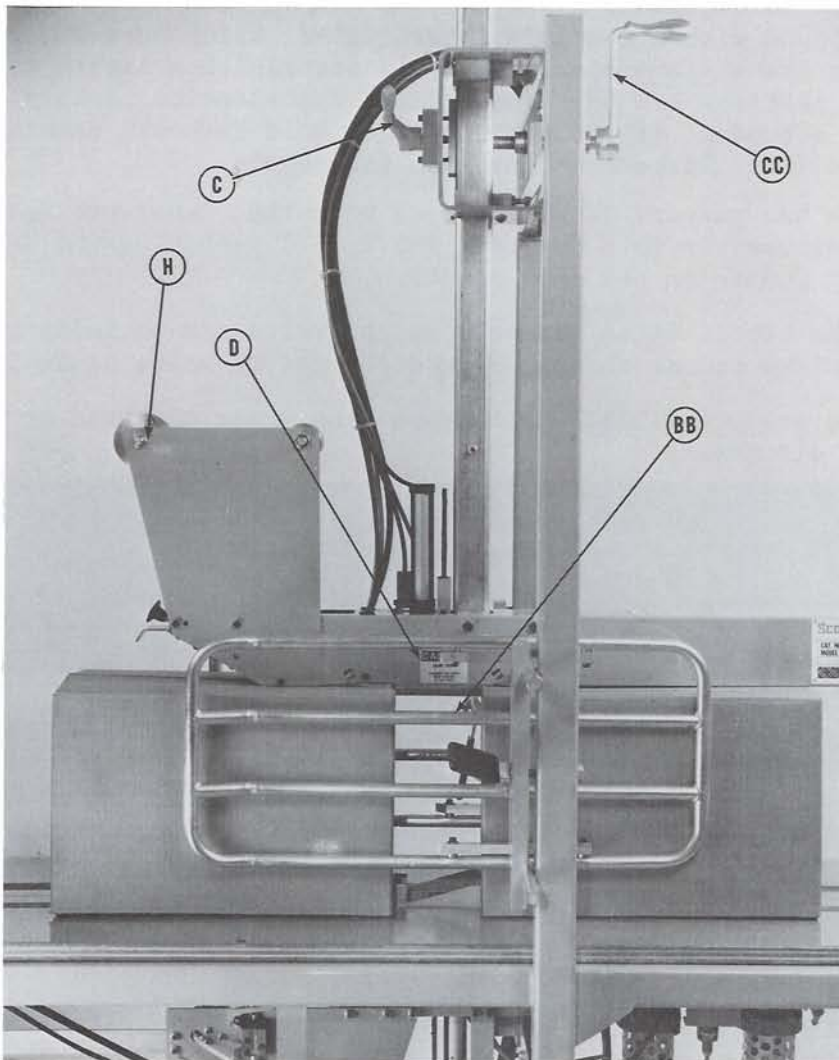

FIGURE 4 - TOP TAPING HEAD & HOLD DOWN SKI - RIGHT SIDE VIEW
Refer to Figure 4. Rotate the clamp handle (C) to loosen the top taping head. DO NOT REMOVE HANDLE OR LOOSEN OTHER FASTENERS ON THE CROSSBAR. Turn the crank handle (C-C) to raise the top taping head so the hold down ski (D) is about 2 inches above the proposed box height and secure the clamp handle (C).
BOX HEIGHT: (Refer to Figure 4)
BOX WIDTH: (Refer to Figure 4)
- 1) Loosen but do not remove the tape drum jam nut (H, figure 4).